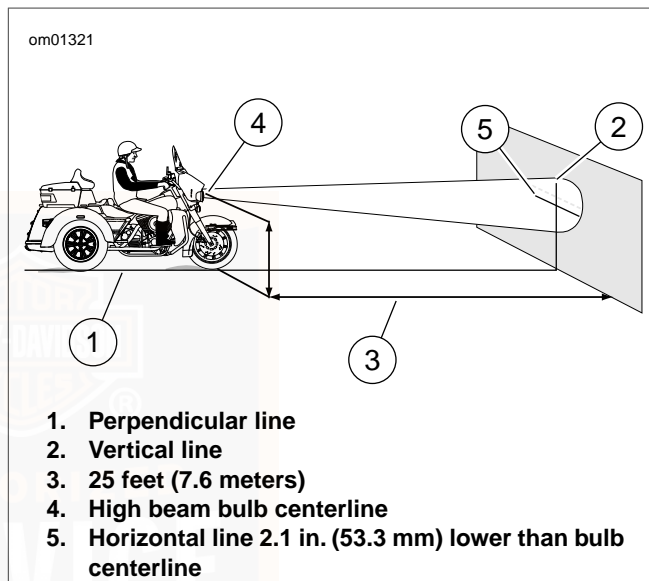

Figure 60. Check Headlamp Alignment
See Figure 60. To aid in properly placing the motorcycle, a perpendicular line (1) can be drawn on the floor. For best results, choose an area with minimum light.
3. Draw a vertical line (2) on the wall.